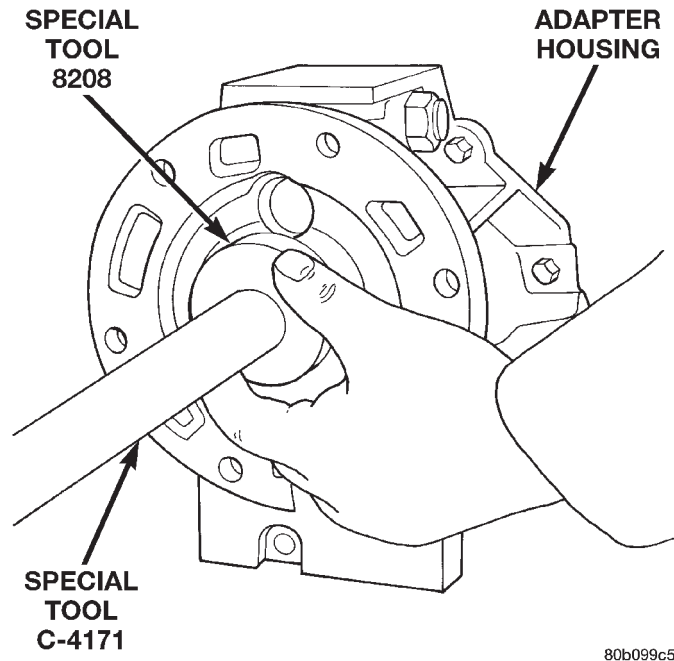

Fig. 16 Install Adapter Housing Seal
(1) Clean seal bore of adapter housing of any residual sealer material from original seal.
(2) Using Tool Handle C-4171 and Seal Installer 8208, install new seal so that the seal is located 0 ± 0.2 mm (0 ± 0.008 in.) to the seal bore face of adapter housing (Fig. 16).